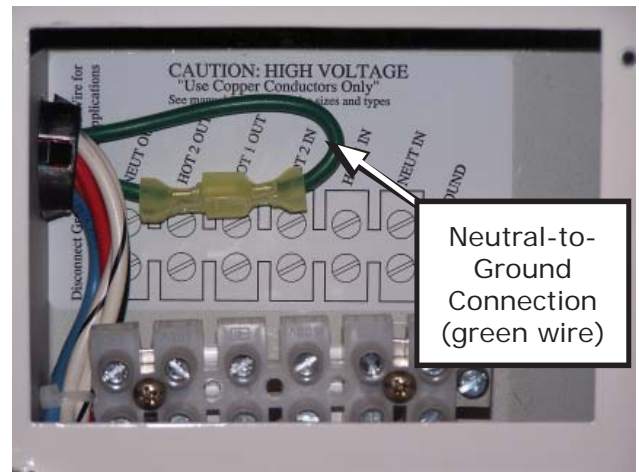

Figure 2-22, Disconnecting the Neutral-to-Ground Connection
2. Inside the AC wiring compartment, locate the green wire with the insulated connector; see Figure 2-22. This insulated connector connects the neutral and ground inside the inverter while inverting.